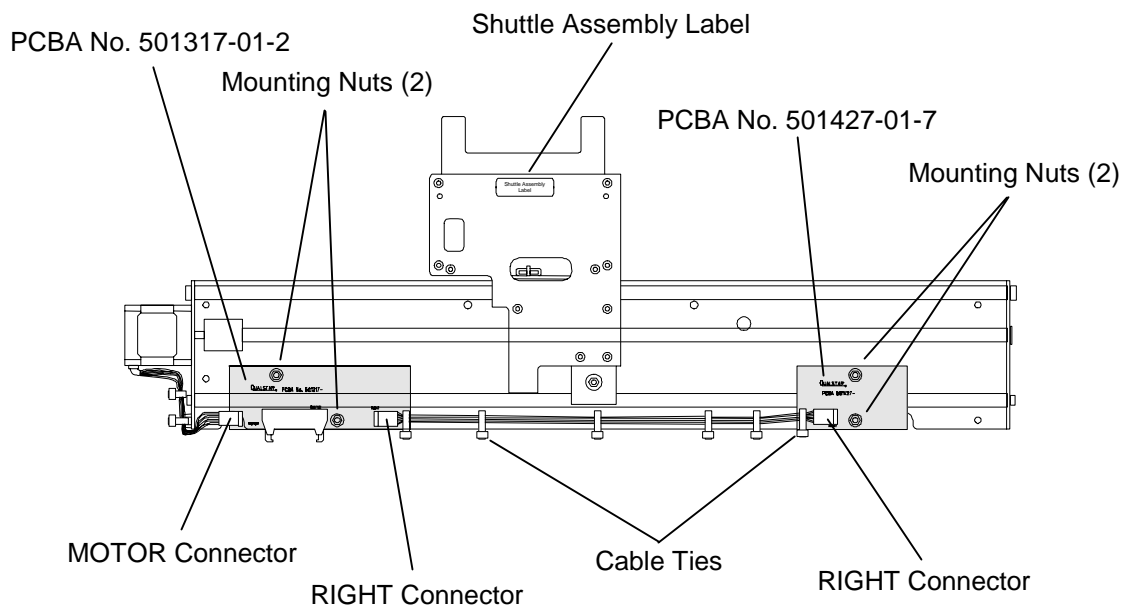

Figure 7-83 Shuttle PCBAs (Shuttle Assembly Bottom View)
TLS-58xxx models will only function correctly with 500189-03-0 Revision B (or later) Shuttle Assemblies. Read the Shuttle Assembly Label (see Figure 7-83) and look for the text: "Shuttle: B" or later.
2. To remove PCBA No. 501317-01-2, carefully cut the cable tie which attaches the RIGHT connector wires to the PCBA then disconnect the RIGHT connector. Disconnect the MOTOR connector. Using a 1/4-inch nutdriver, remove the two mounting nuts which secure the PCBA to the Shuttle Assembly and lift the PCBA off of the mounting studs (Figure 7-83).
4. To remove PCBA No. 501427-01-7, carefully cut the cable tie which attaches the RIGHT connector wires to the PCBA then disconnect the RIGHT connector. Using a 1/4-inch nutdriver, remove the two mounting nuts which secure the PCBA to the Shuttle Assembly and lift the PCBA off of the mounting studs (Figure 7-83).
2. Align the PCBA with the two mounting studs, then install the PCBA onto the studs. Reinstall the two mounting nuts onto the mounting studs, then use a 1/4-inch nutdriver to tighten the mounting nuts firmly against the PCBA. Reconnect the MOTOR connector. Reconnect the RIGHT connector and replace the cable tie that was removed earlier (Figure 7-83).
4. Align the PCBA with the two mounting studs, then install the PCBA onto the studs. Reinstall the two mounting nuts onto the mounting studs, then use a 1/4-inch nutdriver to tighten the mounting nuts firmly against the PCBA. Reconnect the RIGHT connector and replace the cable tie that was removed earlier (Figure 7-83). Make sure that the cable ties and the cable tie mounts do not interfere with the shuttle's travel.